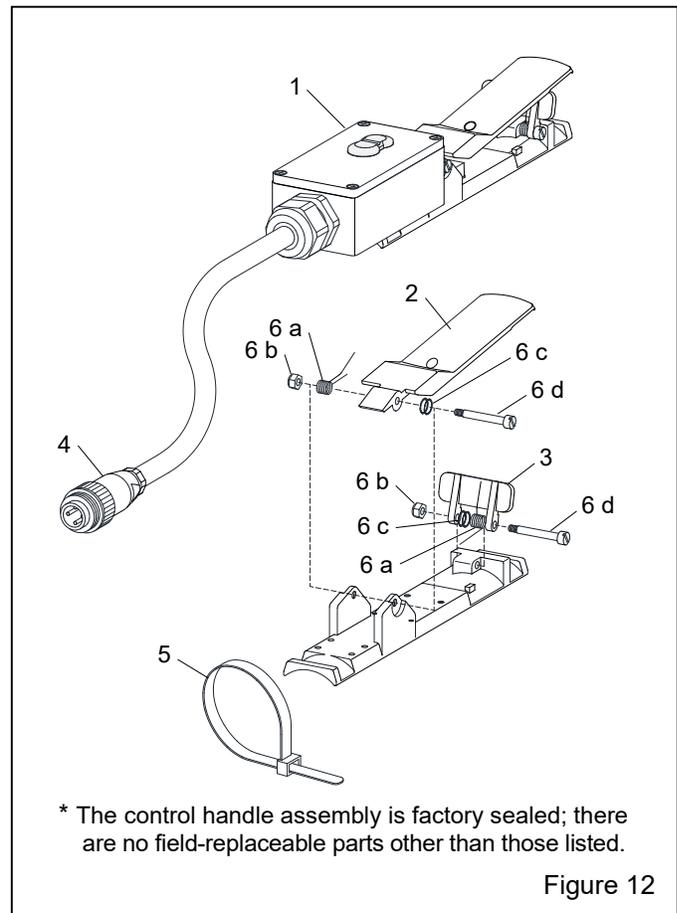

Figure 12
6.0 REPLACEMENT PARTS – Figure 12